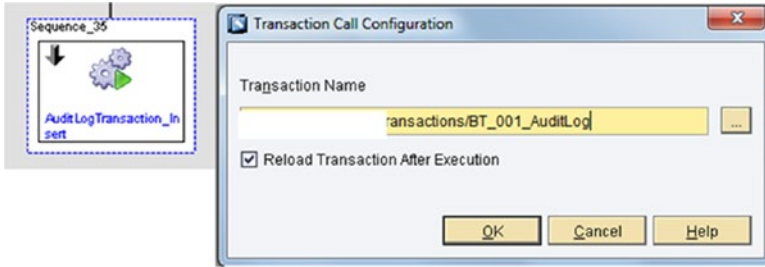

Figure 6-43. Transaction Call action block
- **Transaction Call action block:** This is used to call and execute a predefined transaction that resides in the same MII server from another transaction. This action block allows you to create some reusable functionality in MII. See Figure 6-43.
The transaction that needs to be executed can be browsed and selected in the configuration screen for the field called Transaction Name or the entire transaction path can also be mapped in the link editor of this action block. To reload and refresh the transaction after each execution, check the box called Reload Transaction After Execution, as shown in Figure 6-43.